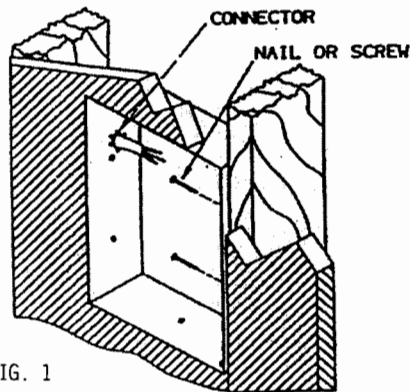

FIG. 1
1. Position wall box a minimum of 6 inches from adjacent wall and floor. Secure to wall stud with nails or screws. Wall box must be installed with front edge flush with finished wall surface. See figure 1.